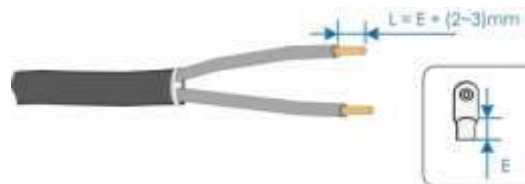

Fig. 4-50 Strip a certain length of protective layer
- 4) Strip a certain length of protective layer and insulating layer according to the requirements of the drawing (Fig. 4-50).